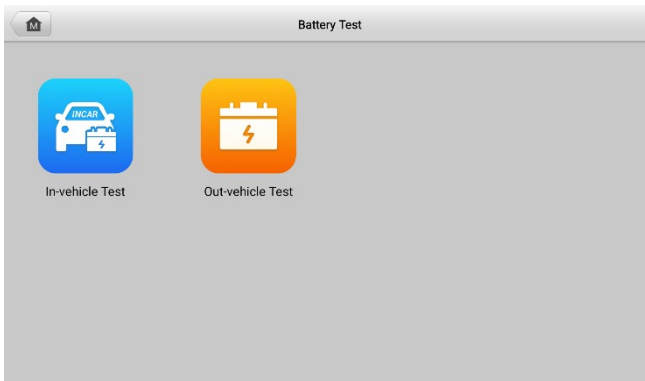

Figure 7-3 Battery Test Screen
1. Tap the **Battery Test** application on the MaxiCOM Job Menu. The Battery Test screen displays (see Figure 7-3 Battery Test Screen).